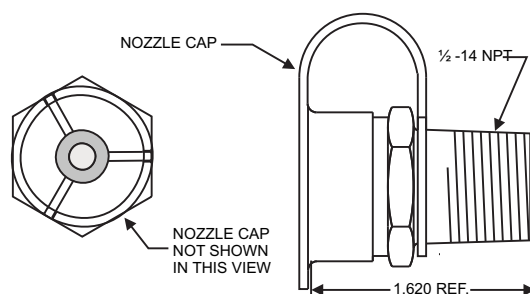
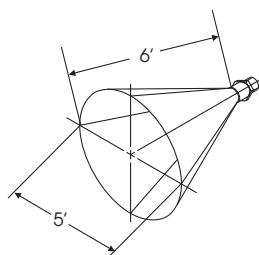

Figure 2-23. Cone Nozzle, P/N 844714
Figure 2-24. Typical Cone Nozzle Spray Pattern
The cone nozzle is made of plated steel and contains a 45° steel cone, causing the nozzle to disperse a cone shaped spray of dry chemical. This nozzle has a black neoprene rubber protective cap that is blown off by the dry chemical discharge. Figure 2-23 shows the cone nozzle and cap. Figure 2-24 shows the nozzle and spray pattern.
- Cone Nozzle (See Figure 2-23) - for use with either ABC or Purple K.